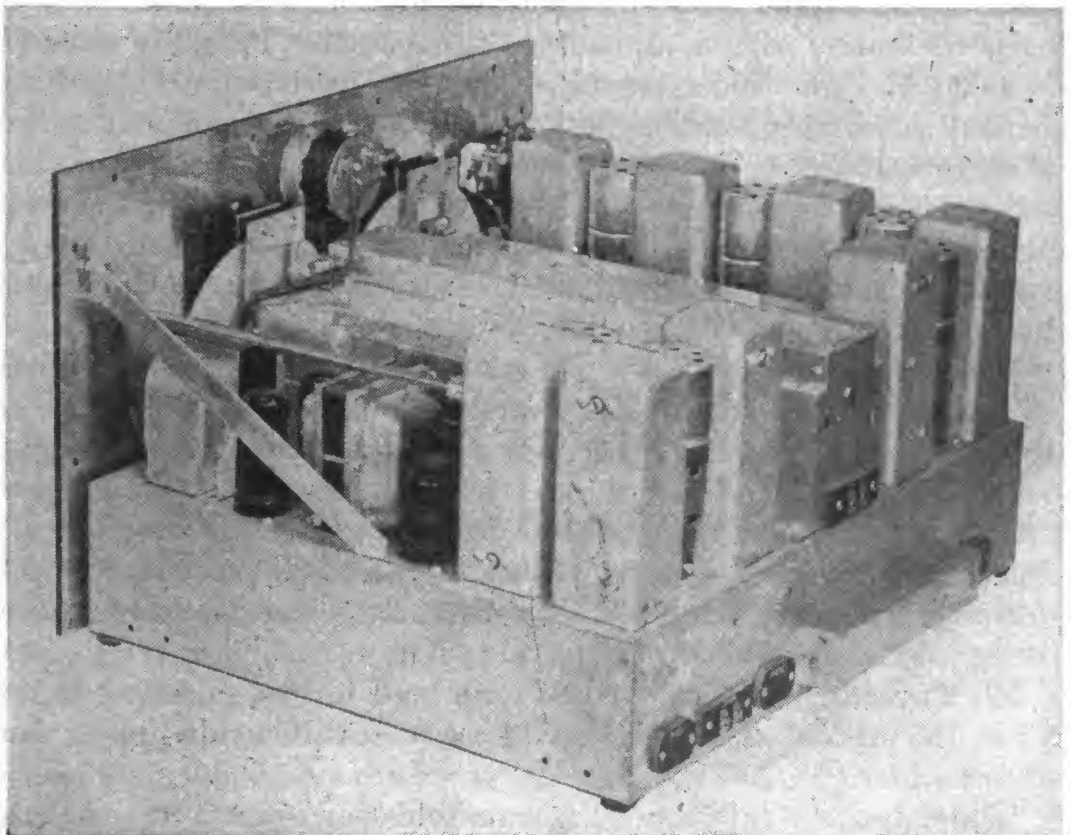

FIGURE 27.—Receiver chassis.
**17. General.**—*a.* Current practice in aircraft radio set construction is to house all parts in a metal cabinet with the front panel, on which the meters, switches, and other controls are mounted, forming one side of this cabinet. The parts are fastened to this front panel and also on subpanels and the metal chassis. Many parts are mounted above holes in the chassis so that other small parts may be mounted below and connected through these holes to the parts on top of the chassis. Figure 27 shows a communication receiver removed from its cabinet.